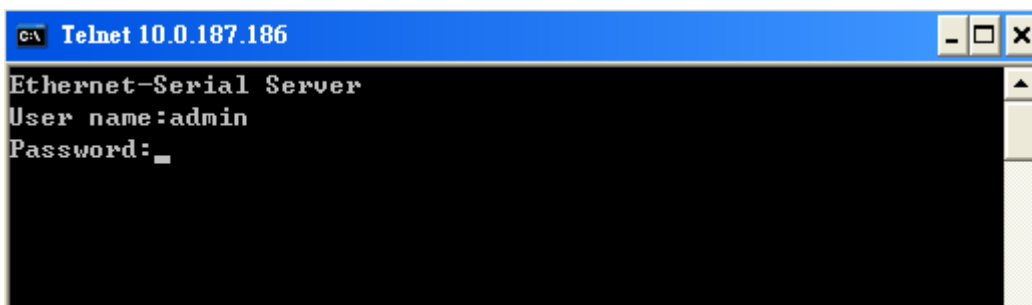

Figure 3.4 Login to the system
->Telnet to SE5001 using command “**telnet IP_address**”. (For example : “**telnet 10.0.50.100**” in MS-DOS command prompt window). After telnet into SE5001, system will prompt for a password, the default password is blank. (Figure 3.4)